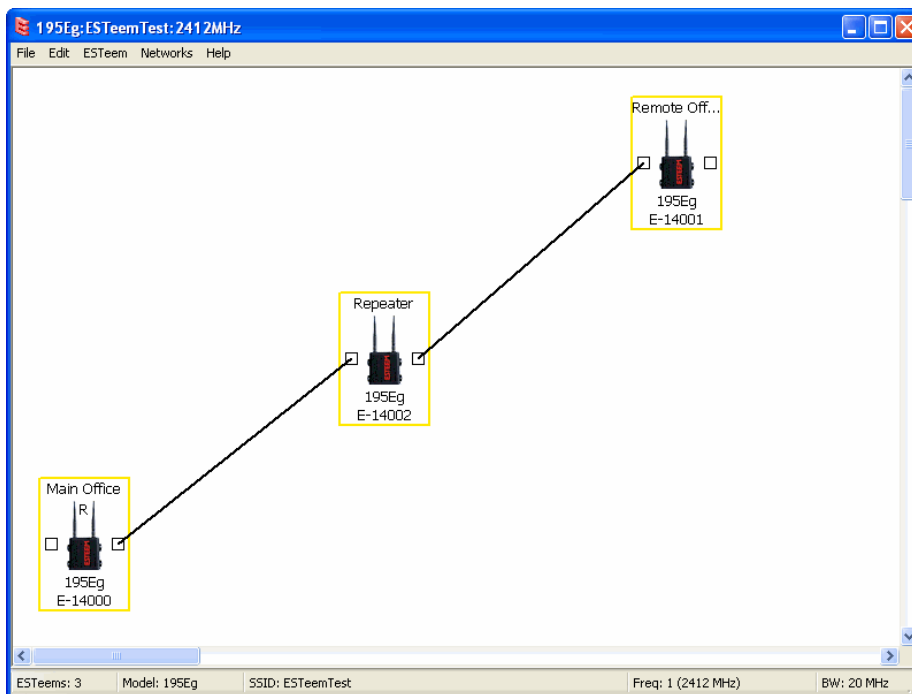

Figure 15: Example 2 Layout
2. Move the ESTeem 195C/M icons on the screen to simulate the layout of the diagram. Draw connection lines between the modems to make the wireless link in the same order as the network layout (Figure 15).